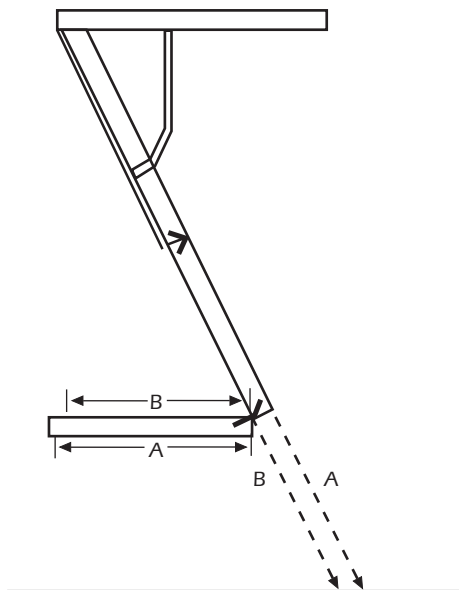

Fig. 7
Step 8– Fully extend the folding section of the stairway. Fold the bottom section of the stairway under the middle section, so that the top and middle sections form a straight line (See Fig. 7). Apply pressure on the stairs to ensure the spring arms are fully extended.
Step 9– Place a straight edge on top of the middle section and slide it down until it contacts the floor. Measure the distance from the end of the middle section to the floor (A in Fig. 7). Mark the distance on the A side of the bottom stringer.
Step 10– Place a straight edge on the bottom of the middle section and slide it down until it contacts the floor. Measure the distance from the end of the middle section to the floor (B in Fig. 7). Mark the distance on the B side of the bottom stringer. It is possible for the landing area to be uneven, so repeat this procedure on the other stringer.